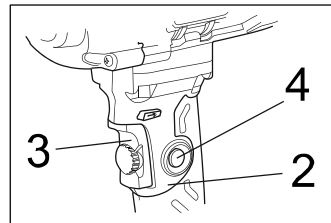

Fig. 5
1. Squeeze the switch trigger (3) (Fig. 5). 2. While squeezing the switch trigger, press the lock-on button (4) into the drill handle (2).